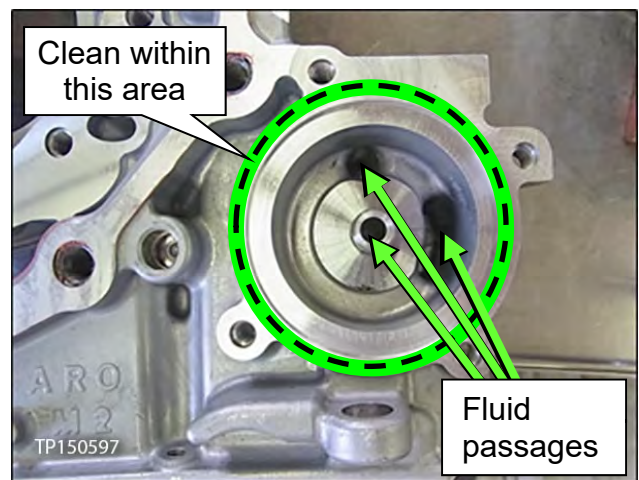

Figure 56
36. Clean the area where the CVT fluid filter fits (Figure 56).
37. Clean the fluid passages to and from the filter (Figure 56).